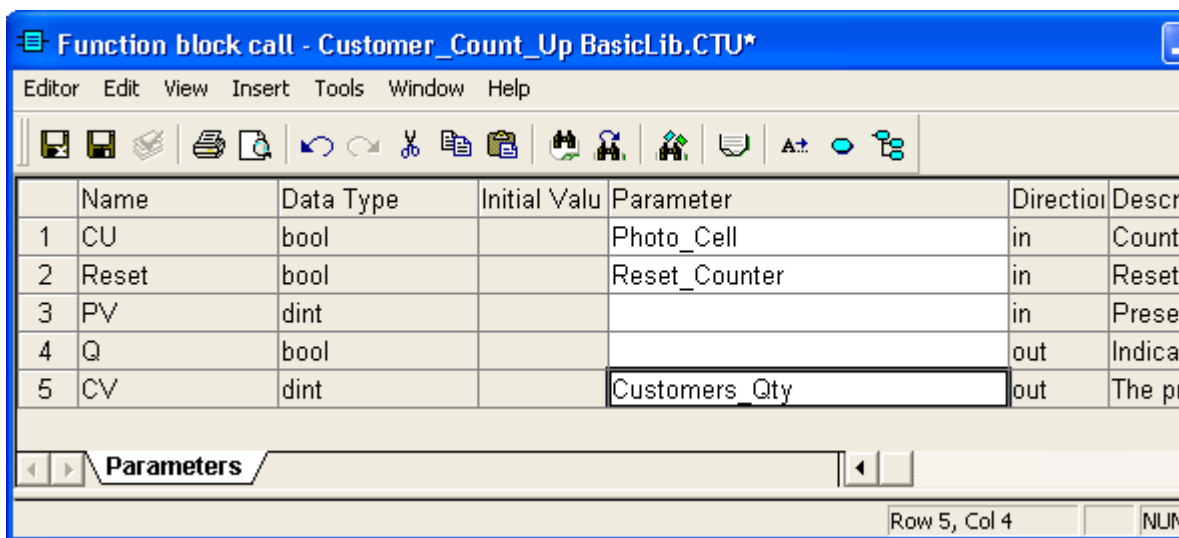

Figure 33. Connecting CTU function block parameters.
7. Fill in the other two variables in the parameter list according to Figure 33, thus leave out the connection of the two parameters PV and Q.